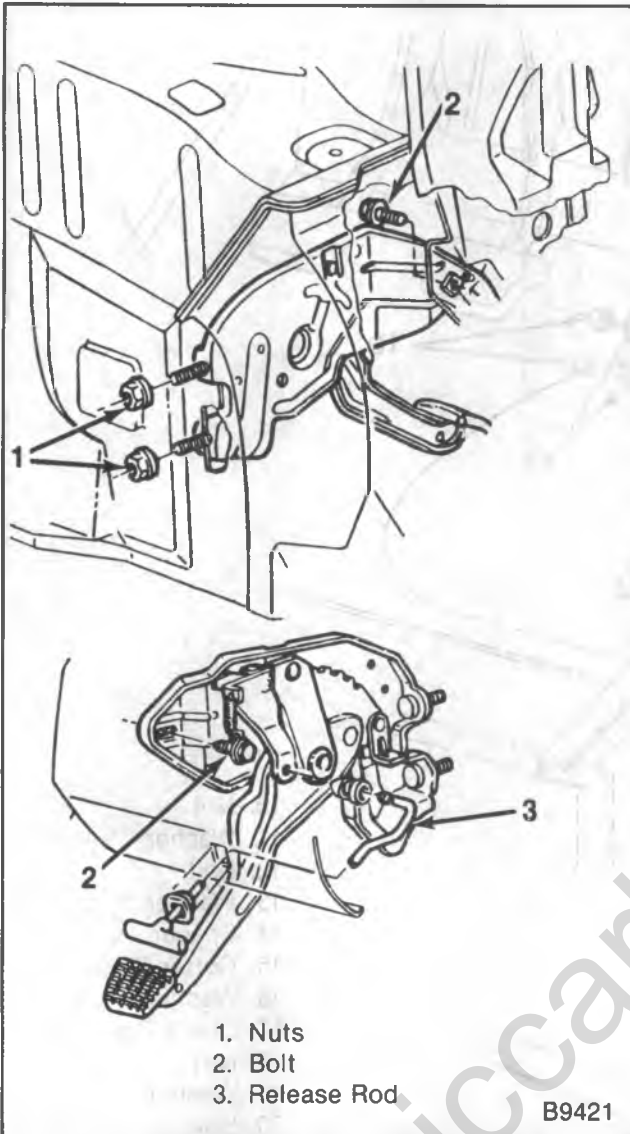

Figure 21—Removing/Installing Parking Brake Pedal on R/V and G-Models
↔ Remove or Disconnect (Figure 21)
↔ Install or Connect (Figure 21)
↔ Remove or Disconnect (Figures 21, 23 and 24)
1. Cable assembly (36).
- Make sure all the retaining fingers (34) and (35) are completely through the holes.
4. Bolt (2) (figure 21).
5. Nuts (1) (figure 21).
7. Connector (33).
8. Nut (31) onto the equalizer (32).